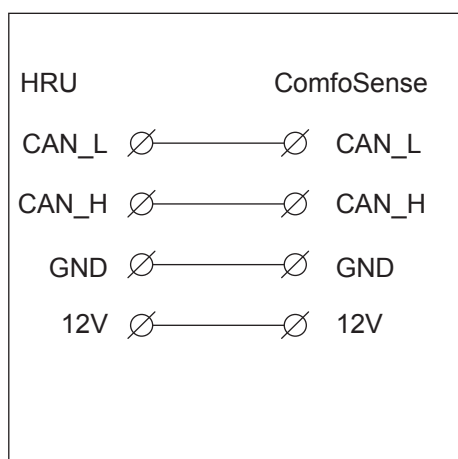

Abb. 5
2. Fasten the wall frame A with the screws (F) on the wall, wall-mounting casing (I) or mounting plate (E).
3. Put the communication cable through the wanted design frame X and resize window (D).
4. Plug in the communication cable (fig 5), to connect the ventilation unit and the device.
6. Attach the device (B) (with the design frame X and the resize window D) with the screws E to the frame A.